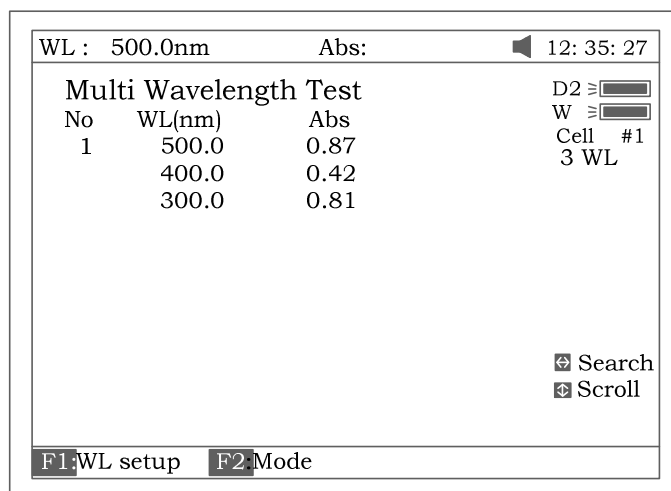

Fig 71
4. Pull the sample cuvette into Light Path, press **【START】** to test. The test results will be displayed on the screen (Fig 71).